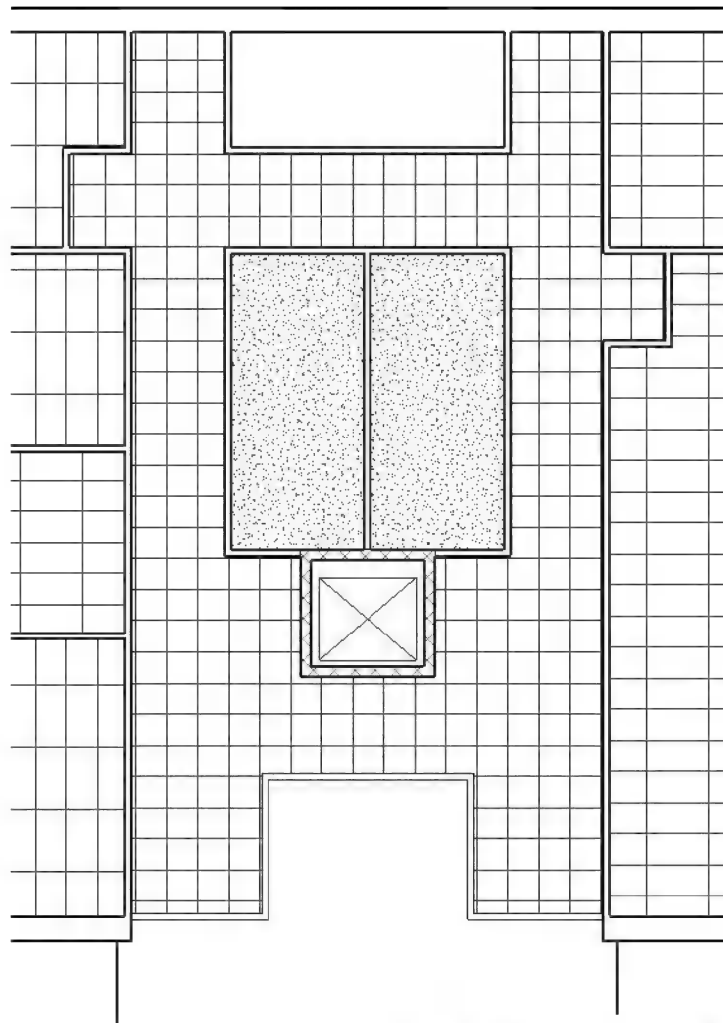

FIGURE 7-2.12 Atrium Ceiling
35. Use the **Pick Walls**, **Line**, and **Trim** tools to sketch a line at the perimeter of the ceiling area as shown in **Figure 7-2.12**. You will also need to sketch a line around the toilet/elevator area to define the area within the larger area that will not receive the ceiling pattern: **2'x2' ACT ceiling, with the ceiling height set to 9'-6"**.